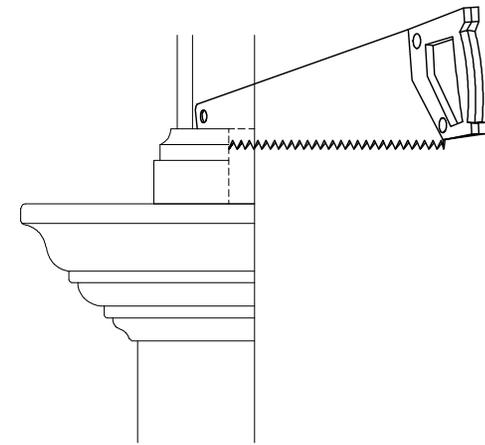

Fig. 1.6
- (b) In order for the bottom panel to fit correctly, a rebate must be cut in the overmantel legs. With a hand saw, cut a 5/8” rebate at the base of each overmantel leg (Fig. 1.6). Note that rebbet should be cut so that they are mirror image of each other so that they both point inward.